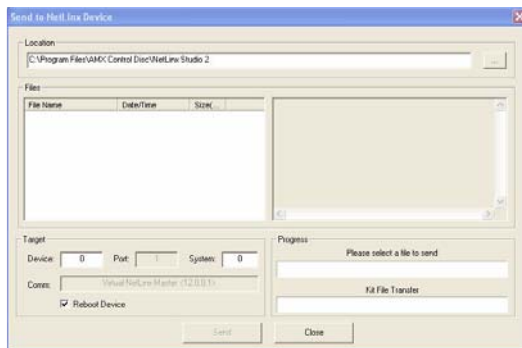

FIG. 110 Send to NetLinX Device dialog window
7. Select **Tools** > **Firmware Transfers** > **Send to NetLinX Device** from the main menu to open the *Send to NetLinX Device* dialog (FIG. 110). Verify that the panel's System and Device number values match those values listed within the System folder in the **OnLine Tree** tab of the Workspace window.